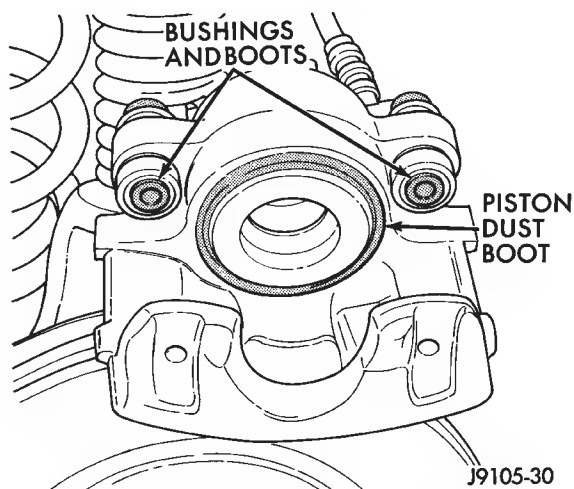

Fig. 9 Caliper Dust Boots And Bushing Locations
(10) Secure caliper to nearby suspension part with wire. **Do not allow brake hose to support caliper weight.**
(11) Wipe caliper off with shop rags or towels. **Do not use compressed air. Compressed air can unseat dust boot and force dirt into piston bore.**
(12) Inspect condition of caliper piston dust boot (Fig. 9). Overhaul caliper if there is evidence of leakage past piston and dust boot. Then inspect caliper bushings and boots (Fig. 9). Replace boots if torn or cut. If bushings or boots are damaged, replace them.